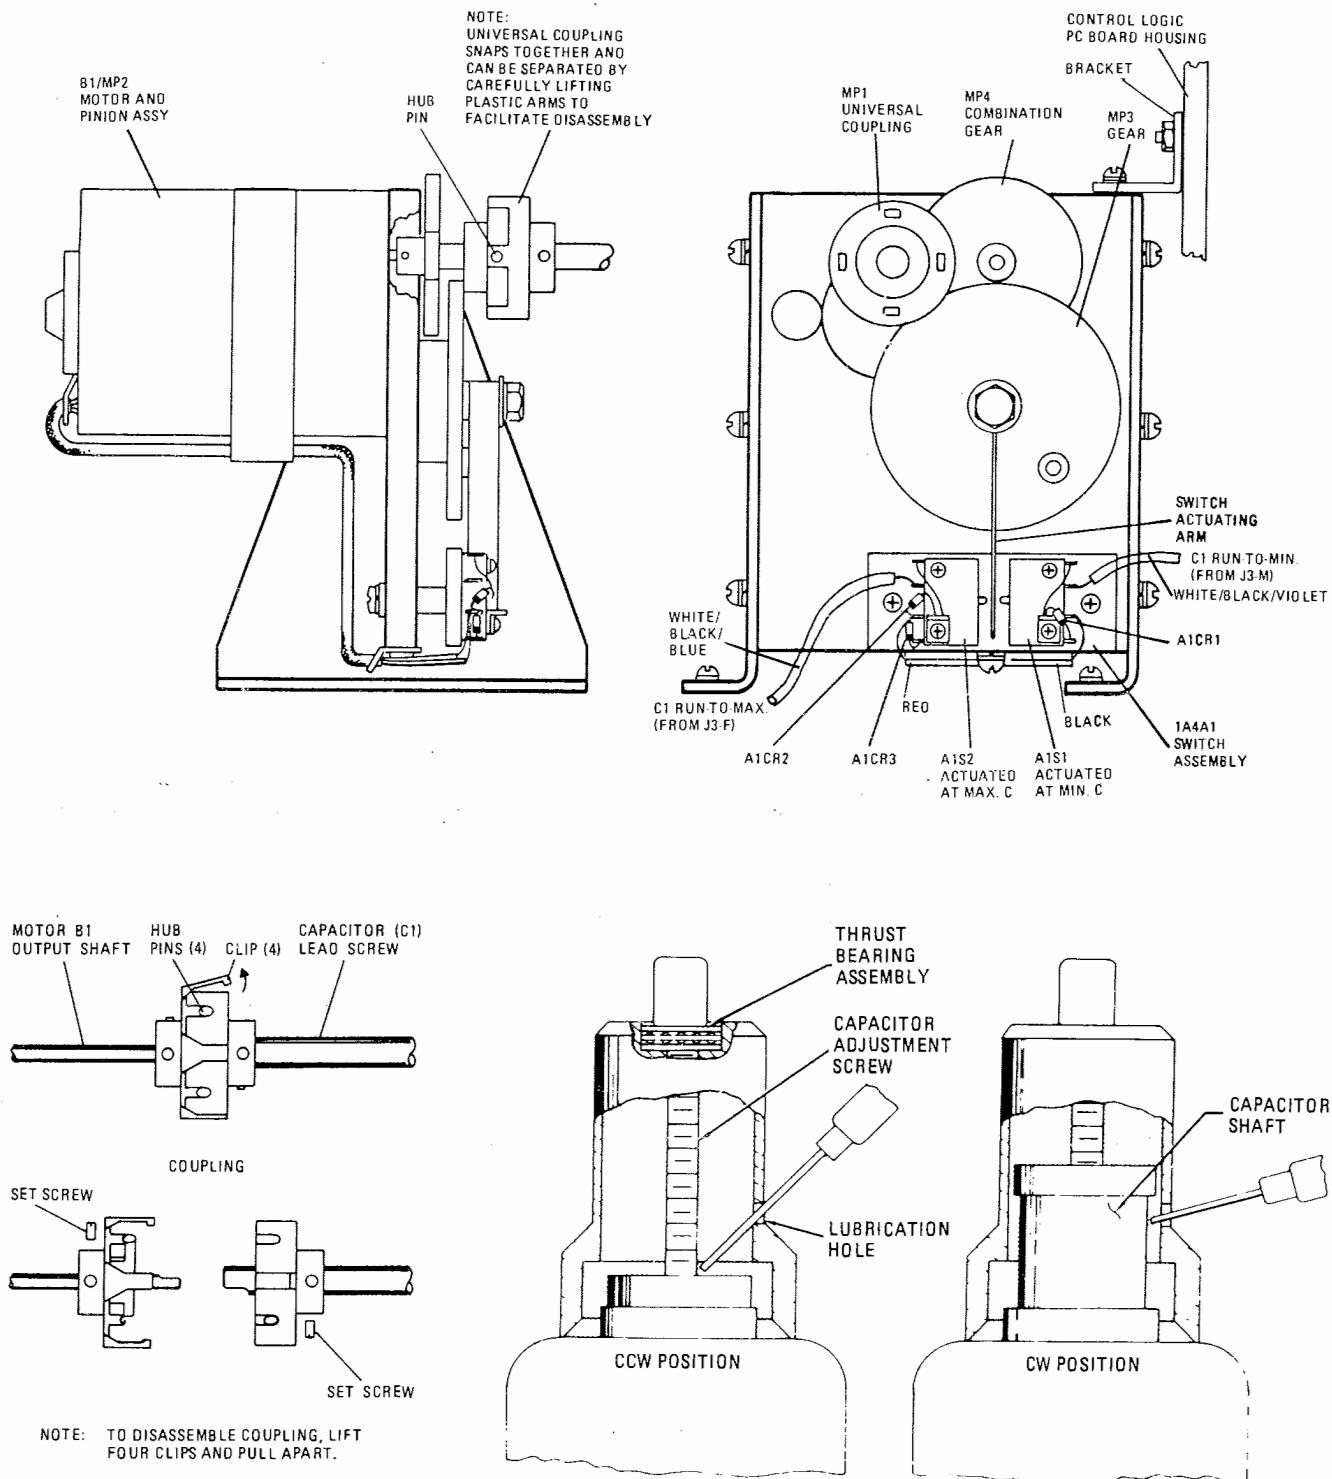

Figure 5-11. Variable Capacitor Drive Assembly 1A4, and Lubrication Detail
- b. Separate the coupling halves as shown in figure 5-11 and loosen (but do not remove) the phillips head screw in capacitor clamp on antenna end of C1.
Refer to figure 5-11 for the following procedures:
Refer to figure 5-11 for the following procedure. To reassemble Variable Capacitor Drive Assembly A4, refer to applicable steps in paragraphs 5.4.2.8 and 5.4.2.9, check position at coupling hub pins as follows: